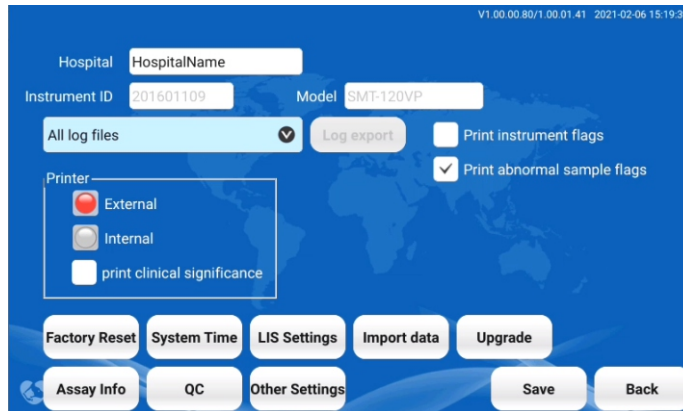

Figure 6-2
1) In the standby interface, click "Settings", showing as Figure 6-2.